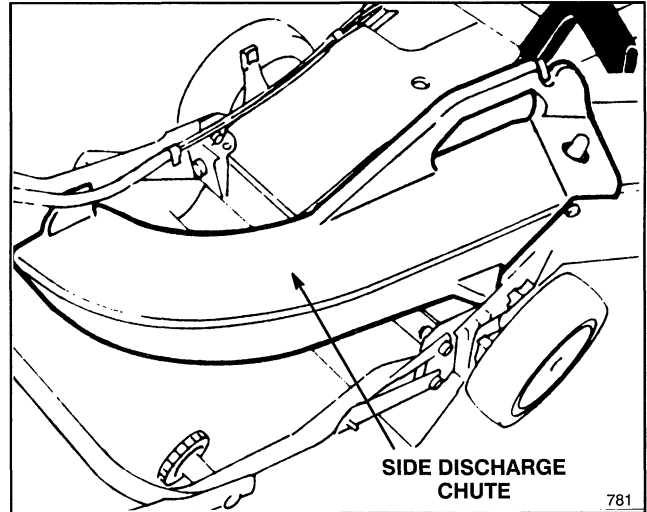

Figure 37
1. Side Discharge Kit, Model No. 59168—Installs in seconds. Rear mounted in place of the grass bag or discharge tunnel plug. Disperses clippings while trimming on both sides (Fig. 37).